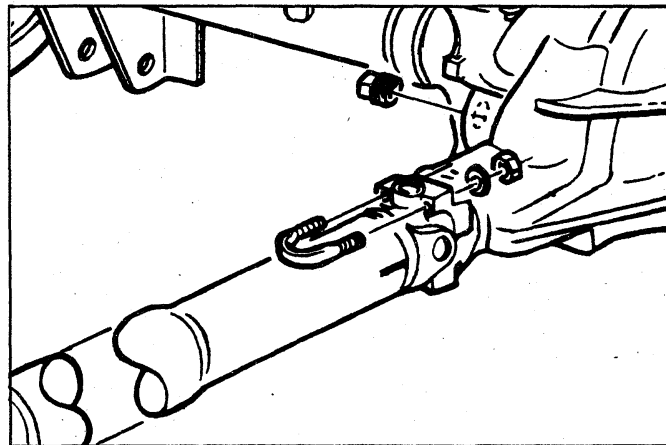

Fig. 101—Removing Propeller Shaft from Companion Flange
1. Raise vehicle, mark relationship of shaft to companion flange and disconnect the rear universal joint by removing trunnion bearing "U" bolts (fig. 101). Tape bearing cups to trunnion to prevent dropping and loss of bearing rollers.